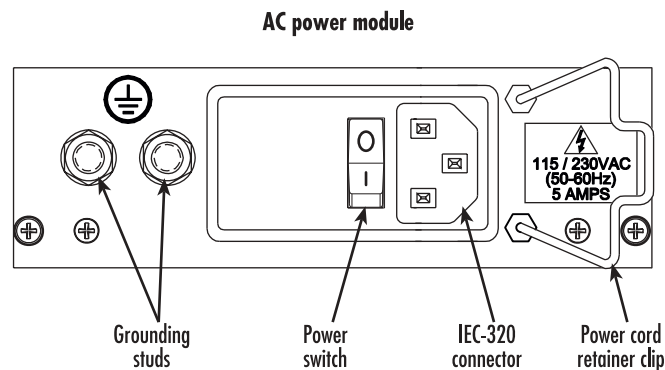
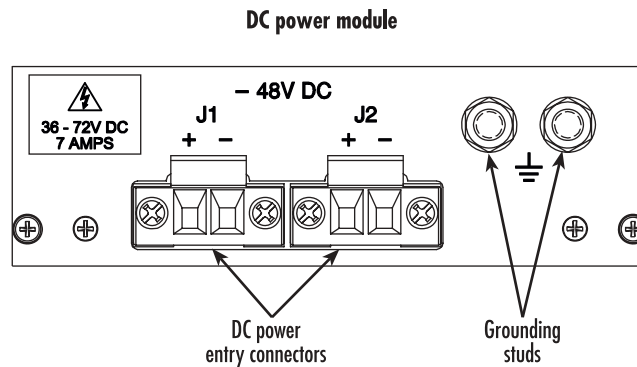

Figure 13. IEC-320 connector and grounding stud locations
Figure 14. DC connector, -DC and +DC input view
1. Install a power cable into an IEC-320 connector (see figure 13). The AC main socket outlet shall be within 3 meters of the equipment and shall be easily accessible.
2. Rotate the power cable retainer clip (see figure 13) so it secures the power cable plug in the IEC-320 connector.
2. Install the ground wire between the grounding studs (see figure 13 on page 37 for AC power entry, or figure 14 on page 38 for DC power entry) and the grounding source.